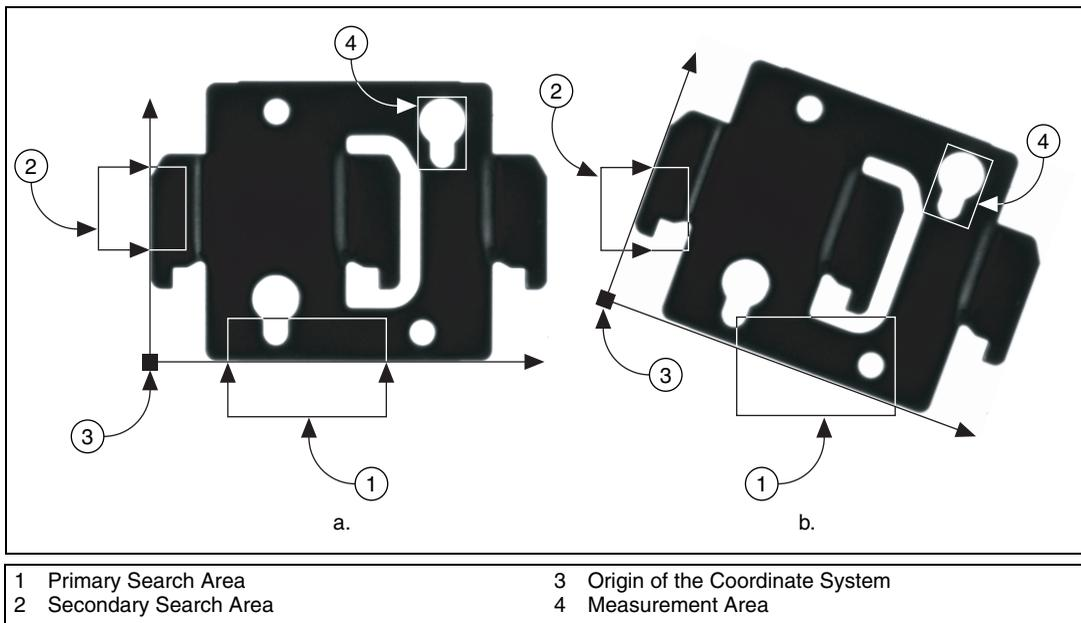

Figure 5-3. Locating Coordinate System Axes with Two Search Areas
- b. If you use `imaqFindTransformRects2()`, specify two rectangular objects, each containing one separate, straight boundary of the object, as shown in Figure 5-3. The boundaries cannot be parallel. The regions must be large enough to include the boundaries in all the images you want to inspect.